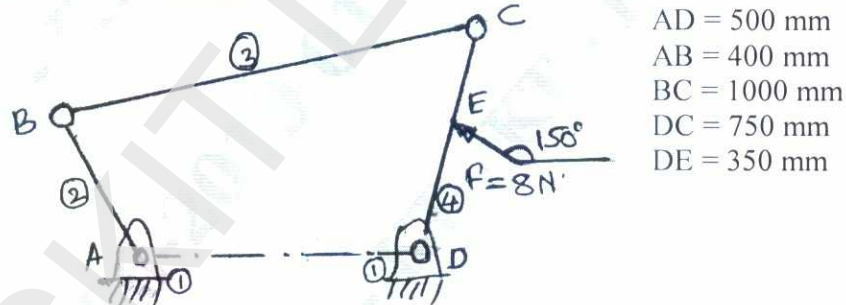

Fig.Q2(b)
- b. A four link mechanism with the following dimensions is acted upon by a force 80 N at 150° on link DC as shown in Fig.Q2(b). Determine the input torque T on the link AB for the static equilibrium of the mechanism.